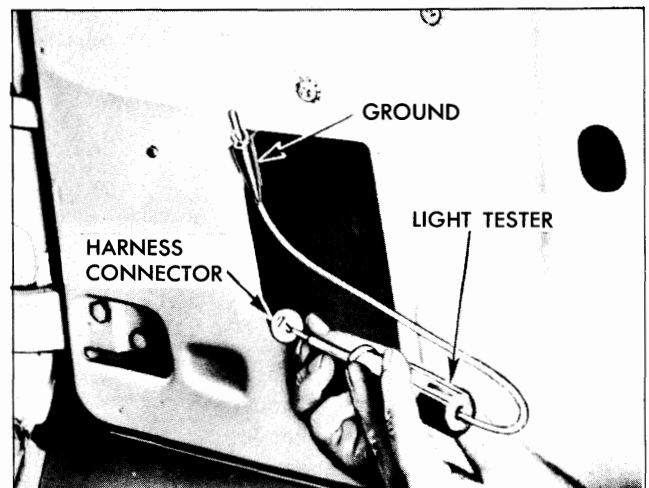

Fig. 9-7 Checking Circuit Between Switch and Motor
3. With light tester check for current at terminal being checked. If tester does not light, there is an open or short circuit in the harness between the control switch and motor connector (Fig. 9-7).